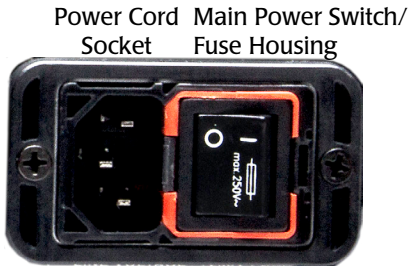

Fig. 26—Unplug the power cord to access the fuse housing release.
1. Turn the main power switch off (I).
2. Unplug the power cord from the power cord socket on the back of the **Air-Therm** (Fig. 26).